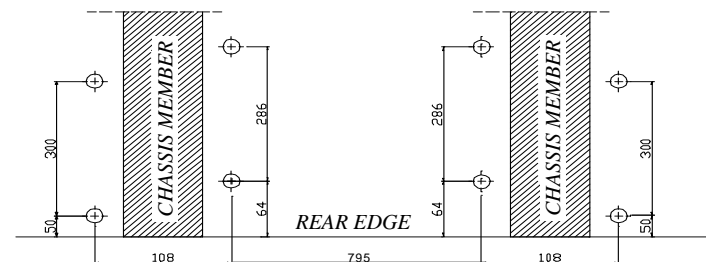

Fig. 1. Underneath view after bumper disassembly.
2. Underneath the car mark points according to figure 1. Next drill holes using bit  $\phi 11$ mm, make very carefully.
3. Inside the trunk put suitable upper fish-plates (pos.8).
4. Underneath the car put side brackets (pos. 4 and 5) and through holes (pos. A) and fish-plates (pos. 8) fix using bolts M10x35mm (pos. 11).
5. Underneath the car put fish-plates (pos. 6 and 7), next through holes (pos. B) and fish-plates (pos. 8) fix using bolts M10x35mm (pos. 11) .
6. Through holes (pos. C) fix main bar of the towbar (pos. 1) with side brackets using bolts M12x35mm (pos. 10).
9. Fix body of the automat (pos. 18) and the socket plate (pos. 3) using bolts M12x25mm (pos. 9) from accessories. Place tow-ball (pos. 2) according to supplied instruction.